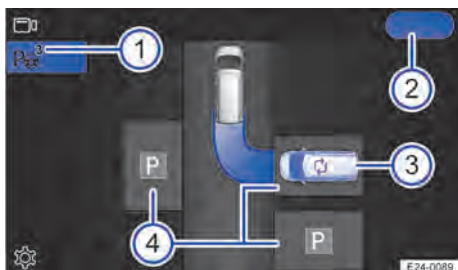

Fig. 119 Infotainment system: selecting a parking space (illustration).
The number of found parking spaces is shown on the function button or for Active Park Assist → Fig. 119 ①.
3. Active Park Assist automatically selects a parking space and shows this as the preferred parking space (blue vehicle) in the third-generation Infotainment system → Fig. 119 ②.
1. Tap the desired parking space on the third-generation Infotainment system screen → Fig. 119 ④.
1. If available, tap the symbol on a parking space → Fig. 119 ③.
i If Active Park Assist is not activated, any detected parking spaces → Fig. 119 ① may be shown in the Parking Sensors display.